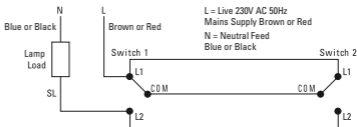

**Fig 7 – Replacement Delay Switches fitted to circuit shown in fig. 5**
- The circuits for both wiring systems with the replacement switches are shown in figs 7 and 8. No wiring alterations are required to establish which wires are connected to which terminals the wires must be identified and traced. An in-line connector is required for the Strapping Cable System to provide continuity for the SL connection.